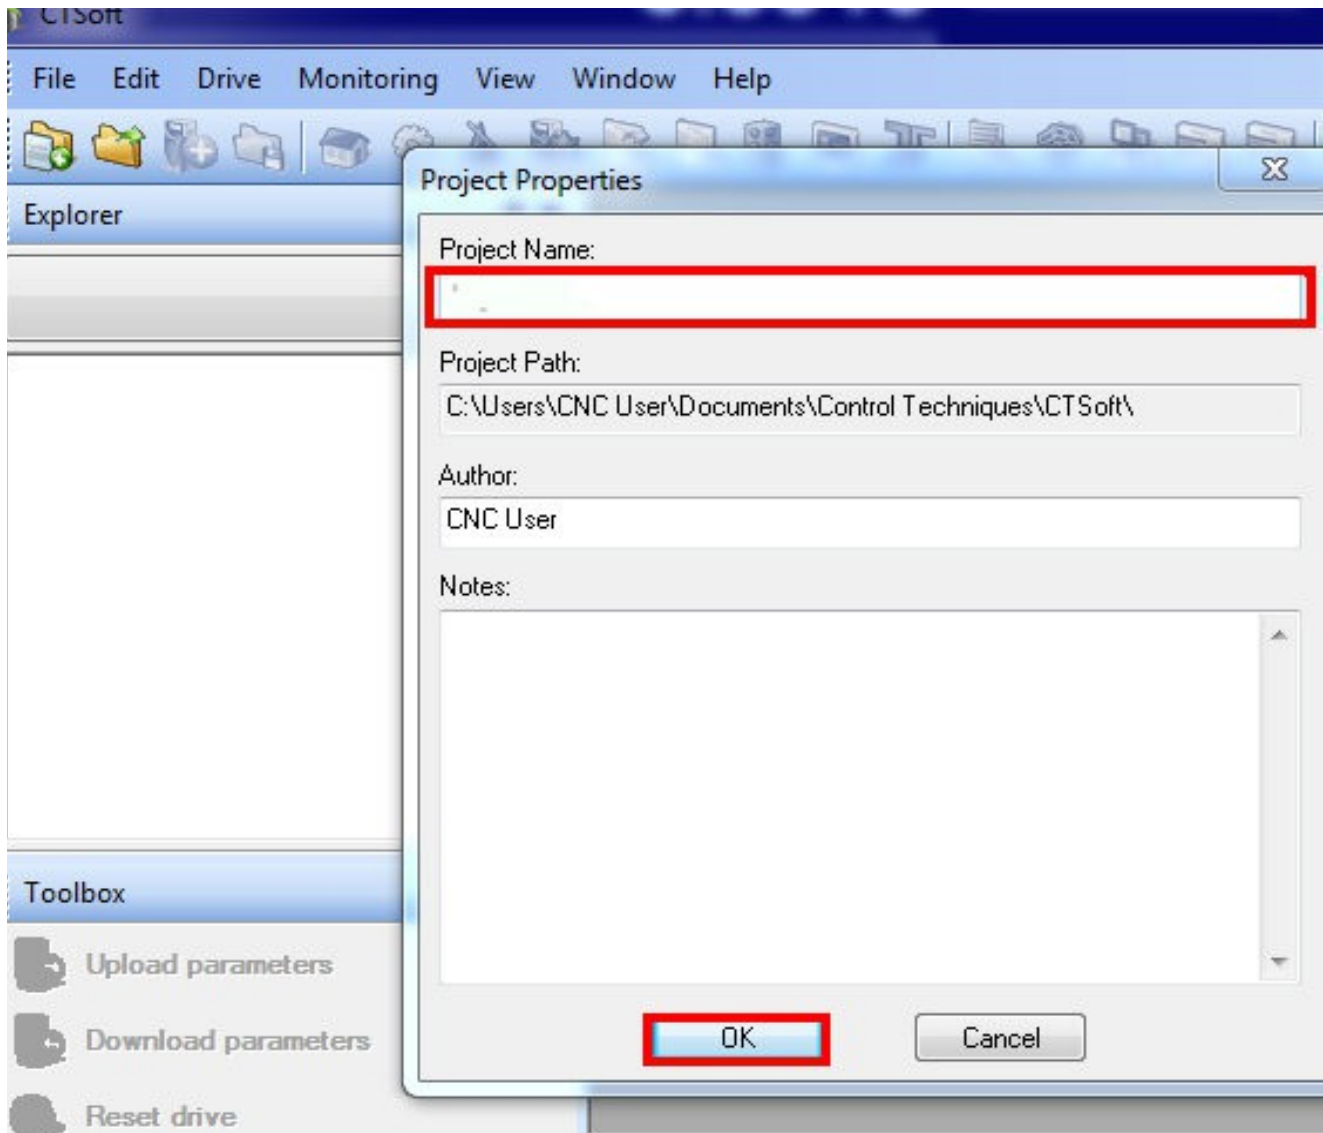

Figure 5
3. In **Project Properties** define the **Project Name** as shown in Figure 5 as the serial number of the Centroid control and click **OK**.